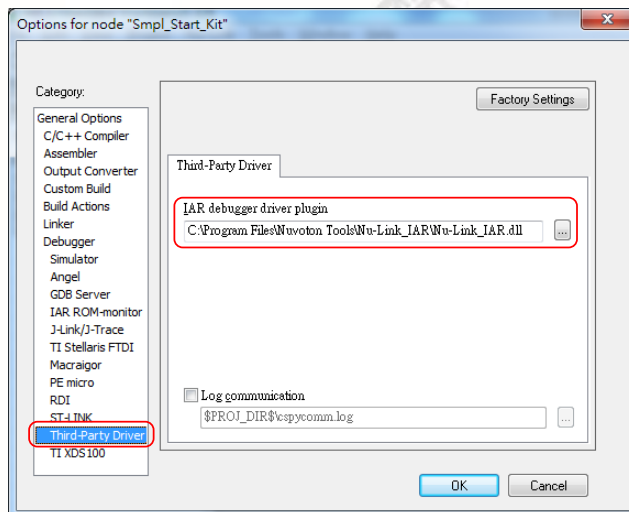

Figure 4-18 Set the Path of the IAR EWARM Debugger Driver Plugin
Step 7: In the **Third-Party Driver** page, specify the path of the IAR debugger driver plugin "C:\Program Files\Nuvoton Tools\Nu-Link\_IAR\Nu-Link\_IAR.dll", as shown in Figure 4-18.